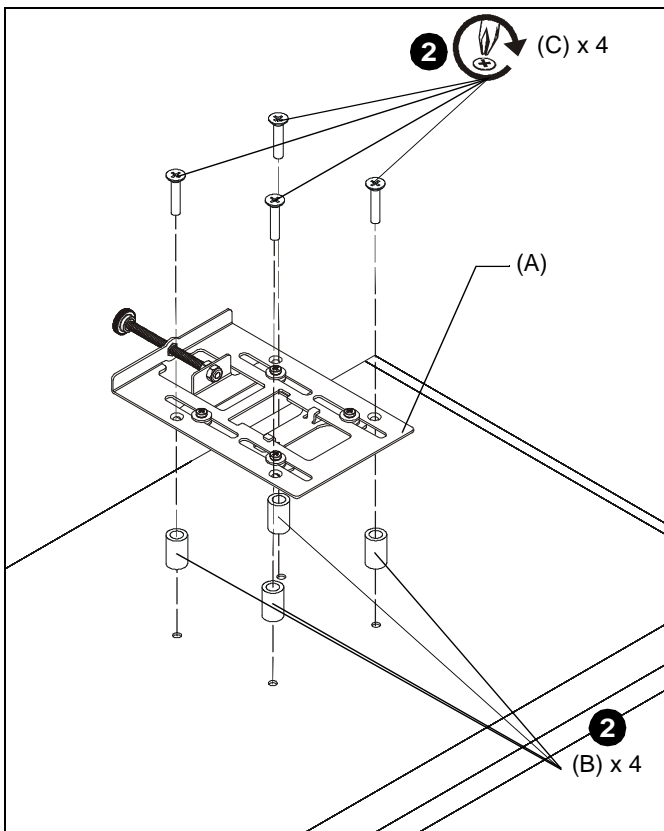

Figure 1
2. Use four M4 x 20mm Phillips flat head screws (C) and four 1/2" spacers (B) to secure KRA235 to back of display. (See Figure 1)